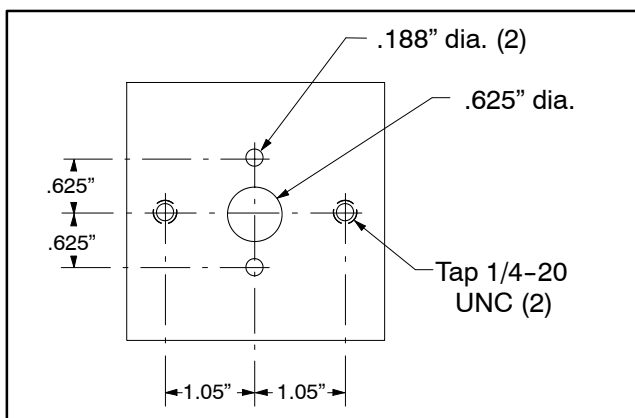

Figure 17
1. Using a 1/4 inch thick, 3" X 3" square piece of steel, make a seal removal tool as shown in Figure 17.